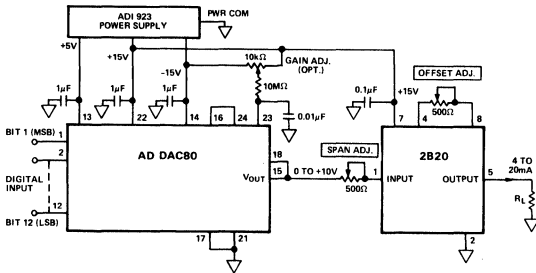

Figure 6. AD DAC80 - 4 to 20mA Current Loop Interface
**Interfacing Voltage Output D/A Converters:** The 2B20 is well suited in applications requiring 4 to 20mA output from D/A converters. The voltage necessary to power the current loop can be derived from the same +15V supply that is used to power the converter. The D/A converter, such as the 12-bit AD DAC80, should be connected for operation on the unipolar 0 to +10V output range. This is shown in Figure 6. After the load resistor connection has been made, the current loop can be calibrated using the offset and span adjustment potentiometers associated with the 2B20 (or the AD DAC80). First, a digital input code of all ones is loaded into the D/A, and the offset adjustment potentiometer is adjusted for a current output of exactly 4mA. Then, a digital code of all 0s is loaded into the D/A, and the span adjustment potentiometer is adjusted for a voltage across the load that corresponds to a current of 20mA  $-1LSB = 19.9961mA$ .